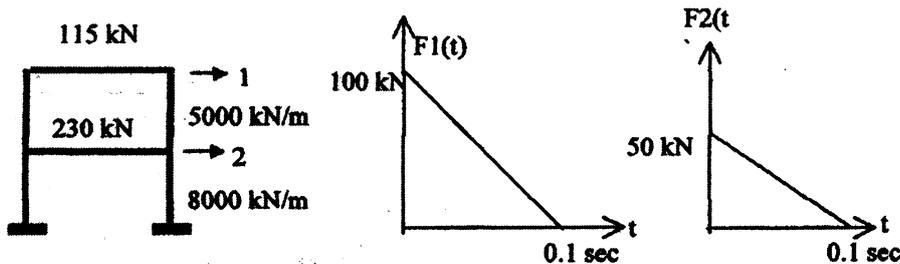

Figure 2
4. A concrete frame supports a rotating machine which exerts a horizontal force at the girder level, $F(t) = 900 \sin 5.3t \text{ N}$. Assuming 5% of critical damping, determine: (a) the steady-state amplitude of vibration and (b) the maximum dynamic stress in the columns. Assume that the girder is rigid. The frame is single bay, has a column size $250 \text{ mm} \times 250 \text{ mm}$, $E = 2.1 \times 10^7 \text{ kN/m}^2$ and a height 3.0 m . Weight of the structure 67.5 kN is lumped at its floor level. (16)
5. Estimate the maximum response of the frame shown in Figure 2 subjected to the loads shown. Neglect damping. (16)